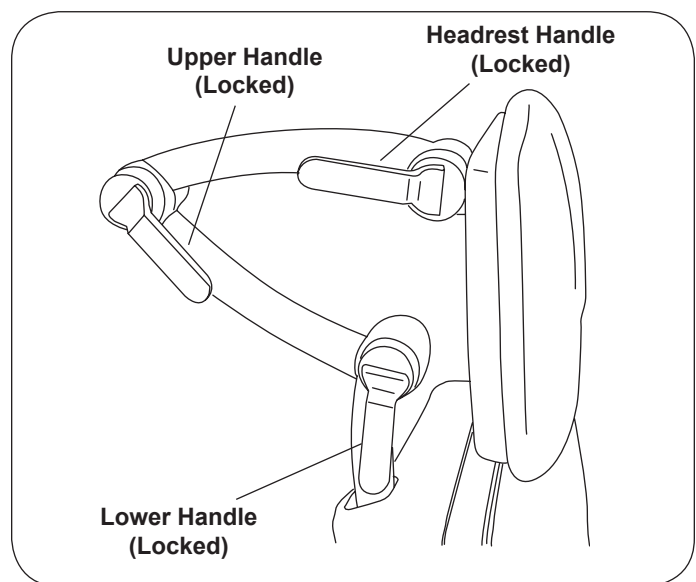

Figure 22. Headrest Handles
Headrest Positions (Figure 22)
1. To move the headrest, rotate the three handles to their open position. Move the headrest to its desired location. Rotate the 3 handles to their locked position as shown in Figure 22.